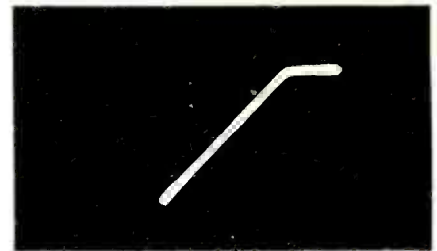

Figure 8
A normal set of color-bar pulses were found at the plate of V1B (lower trace in Figure 8), but no signal at the base of Q6, the second-chroma amplifier (top trace of Figure 8). That proved the loss of color was somewhere between those two points. Color pulses were found at the top and center lugs of the color control. Between the color control and the base of Q6 was C137 and the connecting wires. Yes, C137 was open. Replacement of the capacitor and a touchup of the adjustments finished a job that had seemed difficult before it was started.
29. The lissajous pattern of Figure 8 indicates: